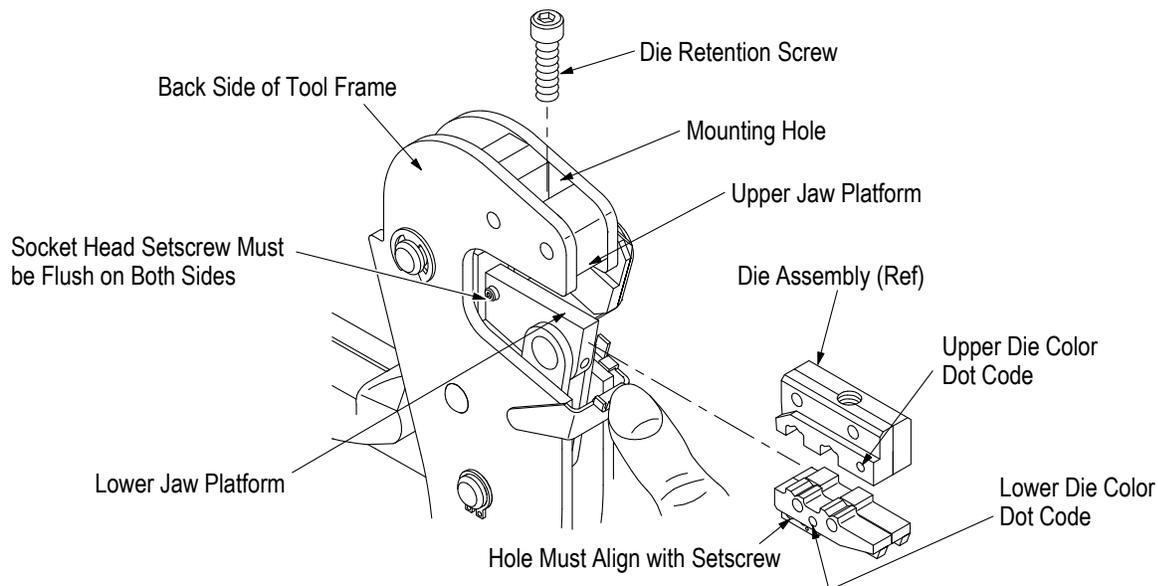

Figure 2
2. Slide lower die onto lower jaw platform of tool frame. Make sure that the hole on the side of the lower die aligns with the socket head setscrew already installed in the lower jaw platform. See Figure 2.
2. Slide upper die onto upper jaw platform of tool frame. Make sure the color dot code on upper die is on the same side as the color dot code on lower die. See Figure 2.
- Added new callouts to Figures 2 and 5